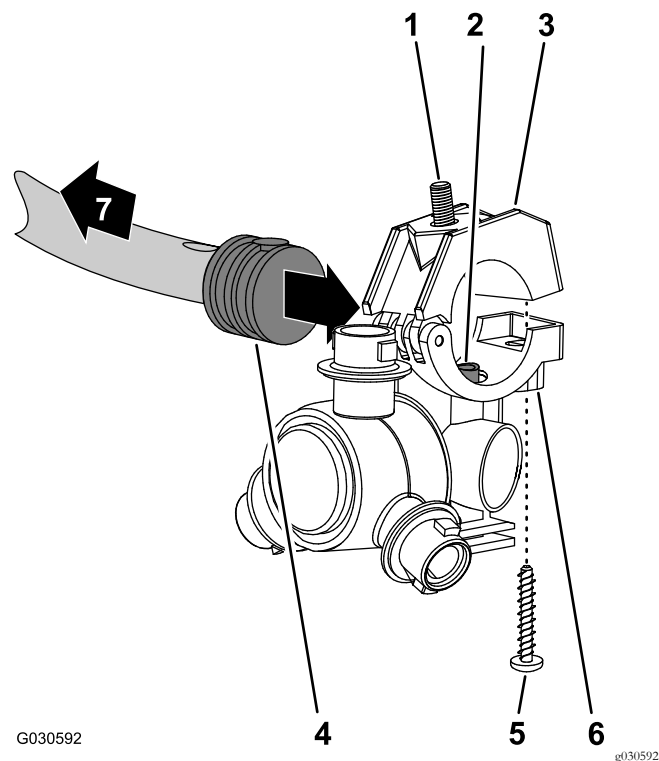

Figure 108
1. Align the transfer tube in the saddle of a sprayer nozzle (Figure 108) with the hole in the side of the single barbed-hose shank (1/2 inch).
2. Close the upper clamp half around the barbed-hose shank and secure the clamp half and spray nozzle body (Figure 108) with the stainless steel screw (#12 x 1-1/4 inches); torque the stainless steel screw to 14 to 18 N·m (20 to 25 in-lb).